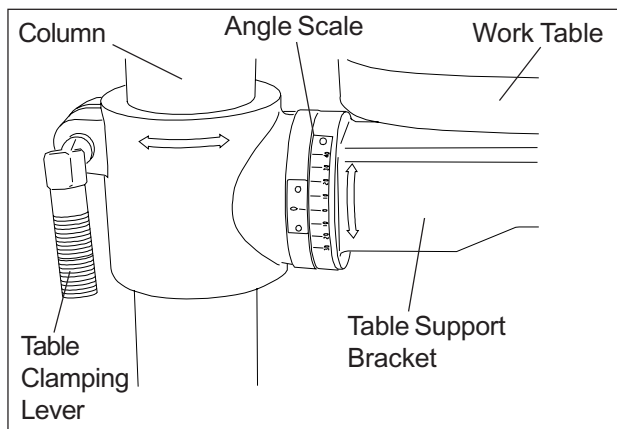

Figure 5. Tilting Work Table
**NOTE:** Locator pin (14) is used to keep the work table from tilting during operation. The pin must be retracted so the table can be tilted.
1. Refer to Figure 5.
3. Remove locator pin (14) by turning nut (15) clockwise until the pin comes out.
4. Loosen pivot bolt (13) in the table bracket (12). Tilt table (21) to desired angle (45 degrees maximum) and tighten pivot bolt (13).
5. Reverse steps 1 and 2 to return the table to zero-degrees position. Before tightening pivot bolt (13), install locator pin (14). Turn locator pin until seated in pin hole. Then tighten pivot bolt.